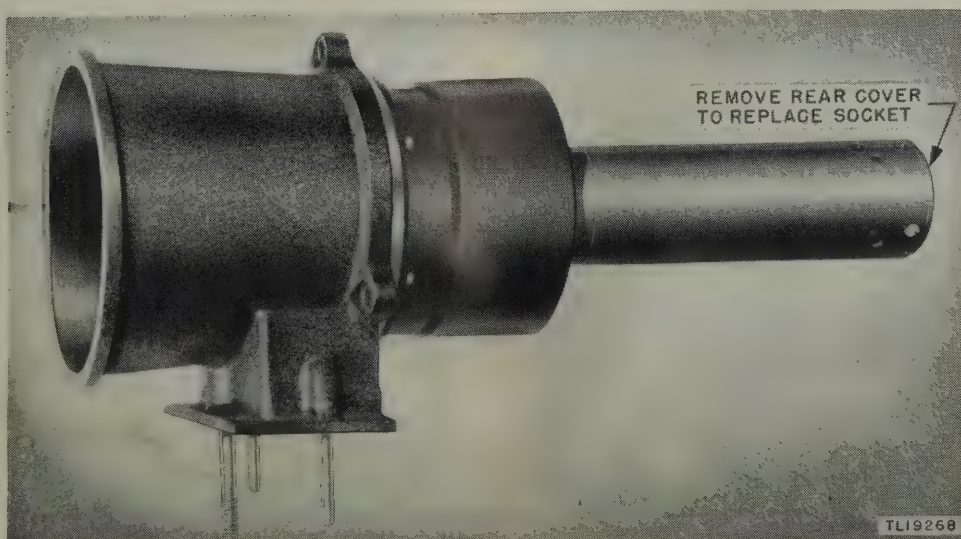

Figure 179. Tube housing.
- (1) With the tube housing removed (a above), take out the four screws which hold the cover on the rear of the bakelite tubing (fig. 179).
- (2) Remove the cap.
- (3) Tag the socket leads before removing them so that replacement can be made without error.
- (4) Mark the position of the socket keyway with respect to the metal retaining ring.
- (5) Loosen the spring clip which holds the socket in the retaining ring. Remove the socket.
- (6) Replace the defective socket with a new one. Reassemble the housing.